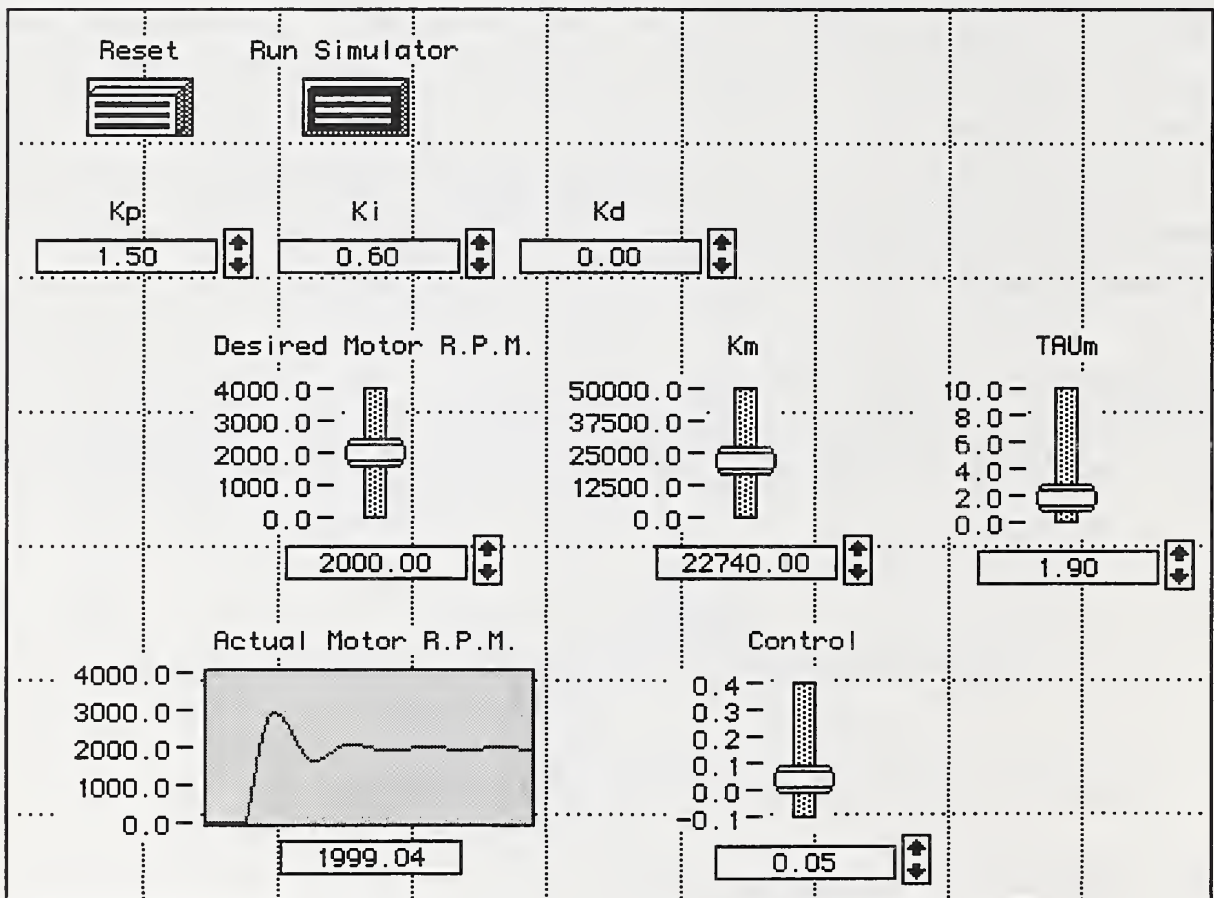

Figure 2.3: D.C. Motor Controller Front Panel.
After completing the tutorial, the controller window will resemble the one shown in Figure 2.3. The tutorial makes use of four types of controls: button, digital, slider, and a strip chart. The buttons, digitals, and sliders are actuators and the strip chart is a display.
- All control names must be entered exactly as they appear in Figure 2.3.
to pop-up its menu and select the **Output Information...** item. Select the **Internal** radio button in the dialog and click **OK**. Lastly, move the button icon to the appropriate position by first changing to the hand tool by selecting the **Hand** item in the **Tools** menu and then dragging the icon to the position shown in Figure 2.3. Repeat this procedure for the *Run Simulator* button.
The other three vertical sliders are different in that they are external (device) actuators. That is, they are associated directly with an external device driver which is covered in the next section. As before, create the control named *Control* by selecting the **Controller ; Controls ; Numeric ; Vertical Slider** menu item and then set the control's name. Click on the icon to pop-up its menu and select the **Output Information...** item. By default, the **Device** radio button in the dialog will be selected. Enter the name *DC\_MOTOR* in the **Device** text-field. Channel 0 is also the default, so you do not have to change this field. Click **OK** to dismiss the dialog. As before, show the digital display and arrows. Change the axis information so that it resembles those in Figure 2.3. Entering negative numbers can be a little tricky. First enter the number part (e.g., 0.1), and then put the cursor at the beginning and enter the minus sign. Lastly, move the control to the appropriate position. Repeat this process for the  $K_m$  and  $TAU_m$  controls except enter channel 1 for  $K_m$  and channel 2 for  $TAU_m$  in the **Output Information...** dialog. Make sure the control names and channel numbers are correct because they must correspond with those in the rule-based program and device driver.